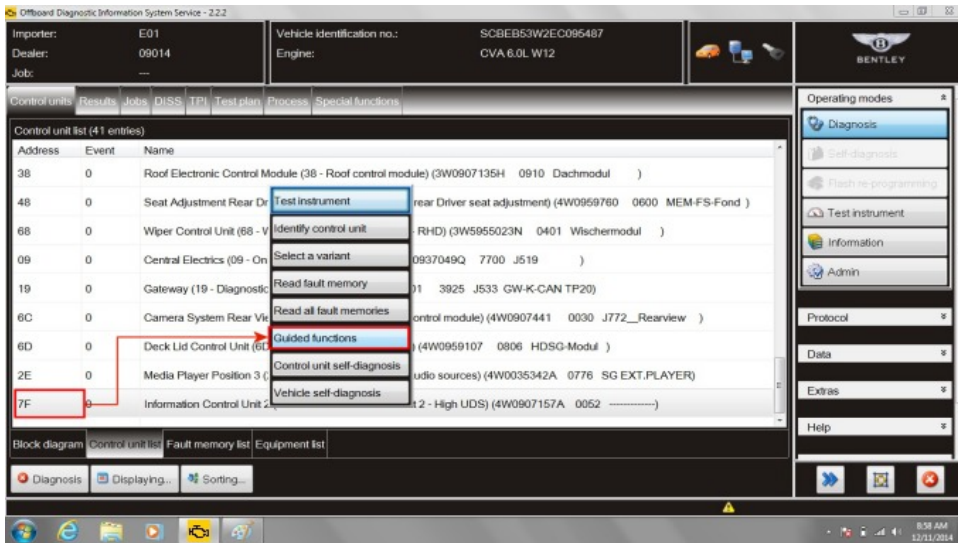

Figure 11
19. A second *Replace control module* routine for 7F must be performed, Within Control units – Select (single touch) *7F Information Control Unit 2 – Reveal drop down menu (extended touch and release), Select Guided functions* (see Figure 11)